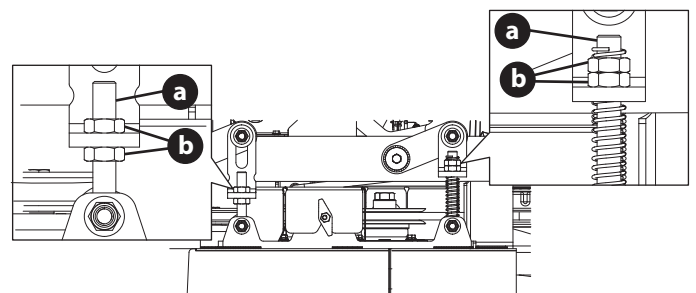

Fig. 30
3. Adjust the eyebolts (a) on the left side of the deck so that the blade-to-ground height at the right outside blade tip matches that of the left outside blade tip. This is done by loosening the jam nuts (b) on the eyebolts (a) and tightening the upper jam nut (b) to raise the deck and loosening the jam nut (b) to lower the deck. The right outer blade tip height is fixed by the right, front eyebolt (a) so you must adjust the left outer tip to match it (Fig. 30).
4. Once the proper adjustment is made, re-tighten the jam nuts (b) (Fig. 30).
- Loosen the jam nuts (b) at the rear left and right of the deck eyebolts (a) (Fig. 30 on page 22).
- Start at the right rear to raise the rear of the deck, tighten the upper jam nut (b) to raise the deck or loosen the upper jam nut (b) to lower the deck (Fig. 30 on page 22).
- Adjust the jam nut (b) at the left rear to take the "slack" out of the threaded rod (Fig. 30 on page 22).
- Tighten both lower jam nuts (b) to secure the deck adjustment (Fig. 30 on page 22).
- The final adjustment would be to take the "slack" out of the left rear linkage if the rear of the deck was raised by adjusting the jam nuts (b) on the eyebolt (a). Loosen the jam nuts (b) and tighten the upper jam nut (b) to remove "slack" (Fig. 30 on page 22).
- In many cases it will be necessary to adjust deck height using both eyebolt (a) adjustments and pitch adjustment to achieve the correct blade-to-ground heights (Fig. 30 on page 22). If you remember that the front right blade tip adjustment is fixed and you level to that height, adjusting the decks will be simplified.